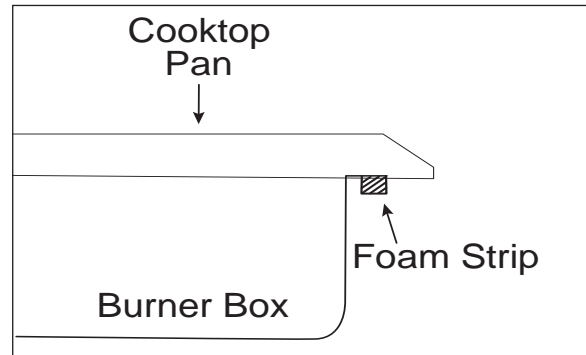

Fig. 3-8. Foam Strip
- Apply foam strip around bottom of burner box flush with edge. (See Figure 3-8).
- Attach brackets to burner box. Insert clamping screws into brackets. Use a screw driver to tighten clamping screws against underside of countertop. (See Figure 3-8).